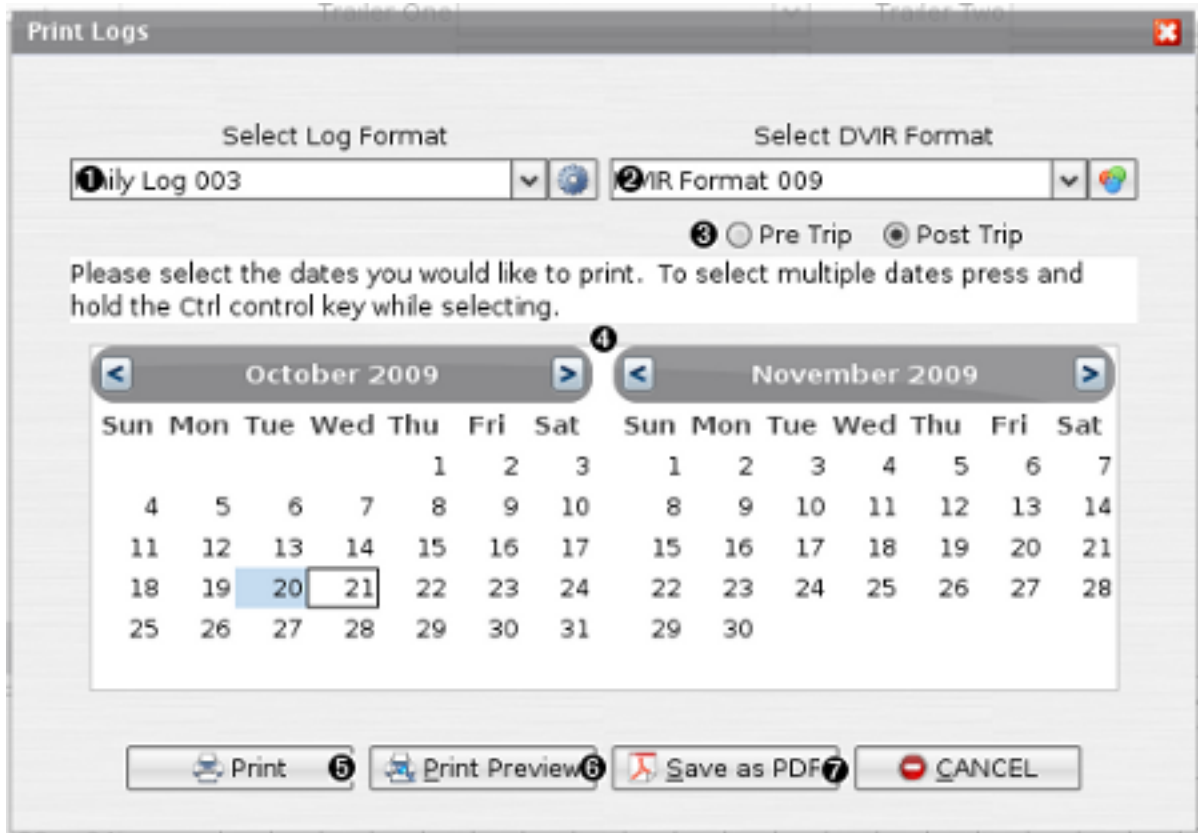

Figure 7.1. Print Dialog
1. Make sure trucklogger is running, and then click the File → Print Logs menu item or the "Print Logs" button located on the dock bar, see Chapter 3, *Application Navigation*. Then wait for the print dialog to appear see Figure 7.1, "Print Dialog".